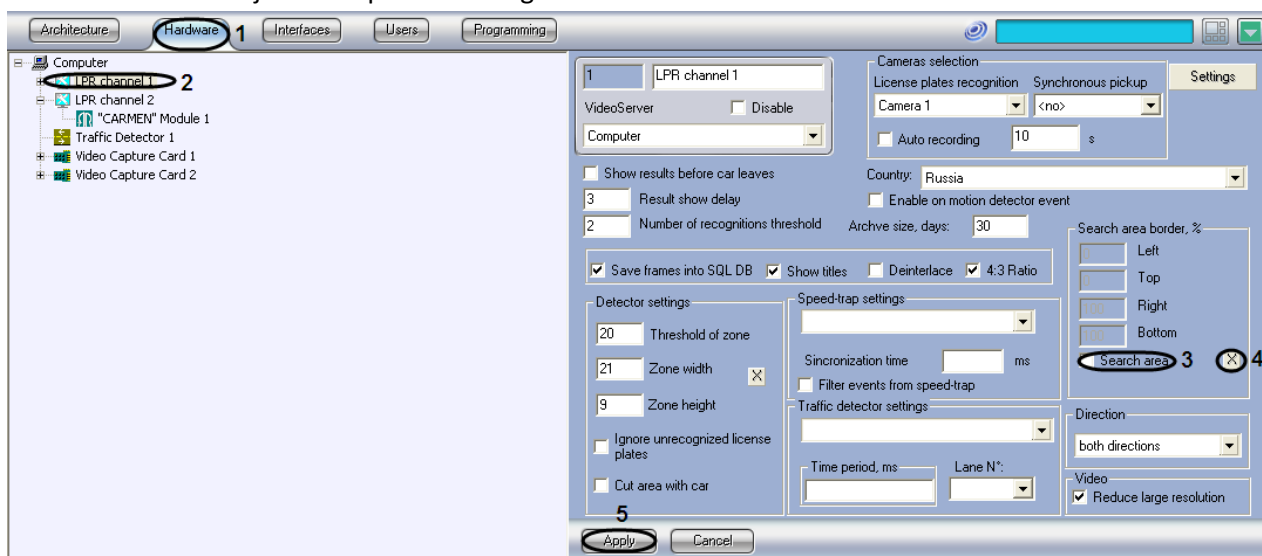

Fig. 7.2-22 Setting the search area borders of the LP number
2. In the object tree of the Hardware tab, select the LPR channel, corresponding to the activated Auto-Urgan3.3.5.18, CARMEN-Parking, CARMEN-Auto or ACCR program module (see. «Program module activation, used for Plates identification», Fig. 7.2-22, 2). The settings panel of the selected object will open on the right side of the window.